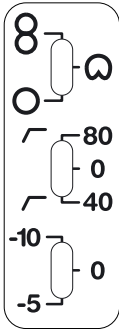

fig. 7
1. There are three polar pickup patterns, hi-pass filters and pad settings available on the NT2-A (fig. 7).